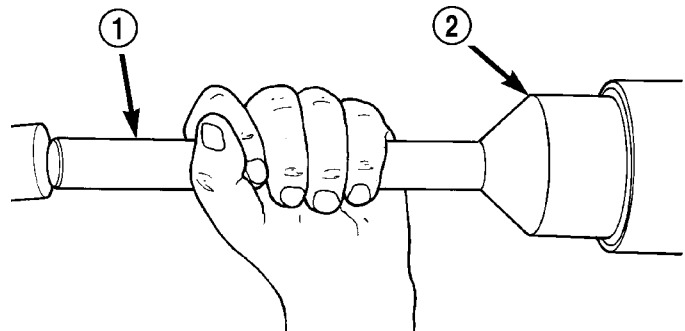

Fig. 133 Yoke Seal Installer
- (1) Place seal in position on transmission housing.
- (2) Drive new seal into transmission housing with Installer C-3972-A and Handle C-4171 (Fig. 133).
- (3) Carefully guide propeller shaft slip yoke into housing and onto output shaft splines.
- (4) Install propeller shaft with reference marks aligned.